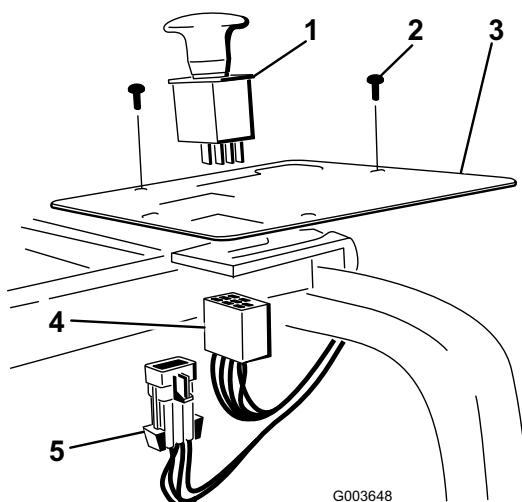

Figure 34
2. Remove the plastic plug from the panel and install the switch to the panel (Figure 34).
4. Install the harness to the switch in the control panel (Figure 34).
6. Install the main harness connector to the main harness (Figure 34).